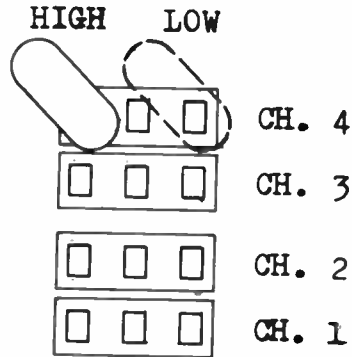

Figure 3
4. Plug only one pin of a HC-25U type crystal (Any frequency can be used.) into CH 4 crystal socket on the High Band side. It activates the RF and Mixer circuits. See Figure 3.
10. Plug the same crystal into CH 4 crystal socket on the Low Band side in the same way. For crystal installation, see Figure 3.